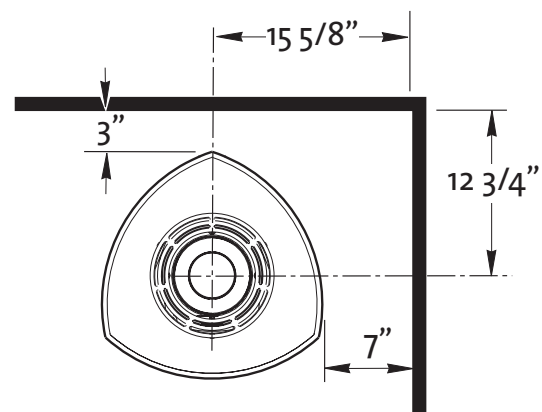

Figure 5. Parallel Wall Clearances.
- **JOINT SEALING REQUIREMENT:** APPLY A 1/8" BEAD OF HIGH-TEMPERATURE SEALANT OR MIL-PAC® TO THE MALE SECTION OF THE INNER VENT PIPE. THE CEMENT SHOULD FORM A SEAL BETWEEN THE INNER AND OUTER PIPES. SEE FIG. 5. SEE VENT MANUFACTURER'S INSTRUCTIONS.